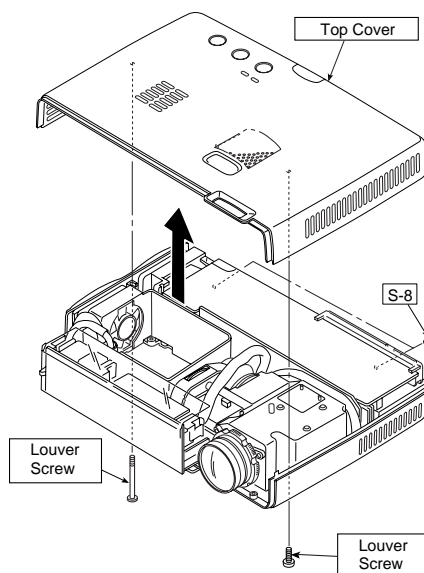

Fig. 2
- 2) Top cover (See Fig. 2.)
Remove the two louver screws (S-8) shown in Fig. 2.
Remove the top cover as shown in Fig. 2.